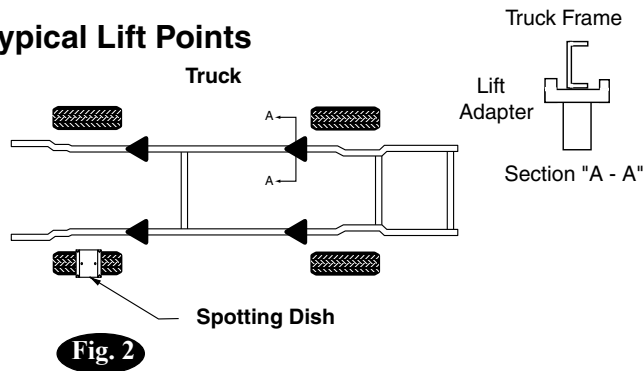

Fig. 2
3. **Loading:** Swing arms under vehicle and position adapters at vehicle manufacturer's recommended lift points, Fig. 2. Use optional adapter extensions for under body clearance when required.